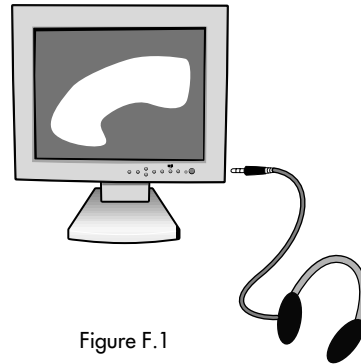

Figure F.1
2. Headphones may be connected to the "Headphones" output on the right side of the monitor (Figure F.1). Headphones can be purchased from your local electronics store.